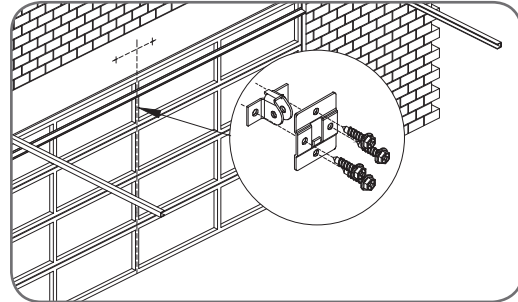

fig 24
The door bracket comes in two parts. The bottom plate with two mounting holes is used on its own for one piece doors. For sectional doors, the top plate is placed over the bottom plate and is fixed with four (4) screws (**Fig. 24**).
- Mount the door bracket, or bracket assembly, on the door's centre line one-third down the top panel (**Fig. 24**) using M6 or equivalent screws (not supplied),